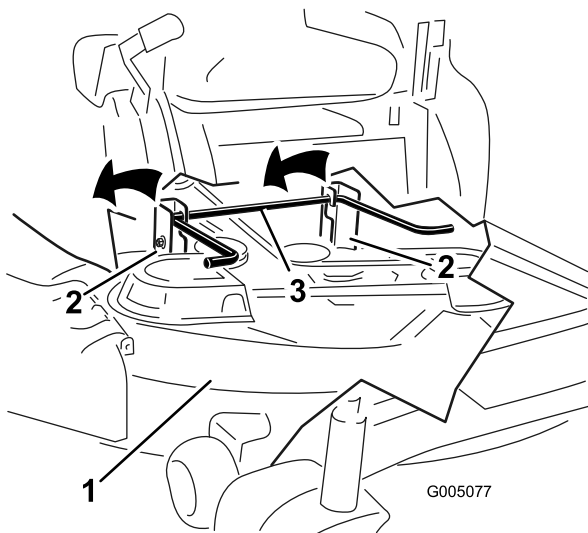

Figure 44
- Lift the mower and hanger brackets clear of the rear lift rod and lower the mower carefully to the ground (Figure 44).
5. Lift the rear of the mower deck and guide the hanger brackets over the rear lift rod (Figure 44).